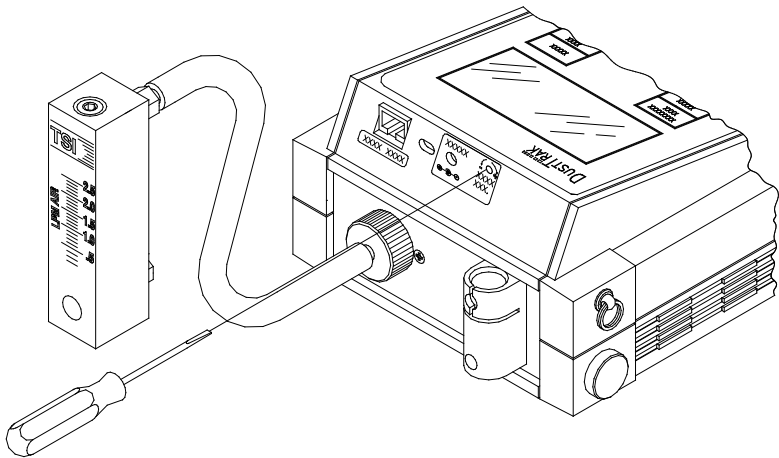

Figure 4–4: Adjusting the Flow Rate
3. With the DUSTTRAK monitor running, use the supplied screwdriver to turn the flow adjustment screw located on the back of the DUSTTRAK monitor (see Figure 4–4). Observe the reading on the flowmeter (reading is taken at the center of the ball) and adjust the flow until the desired reading is obtained. The factory setting is 1.7 L/min.